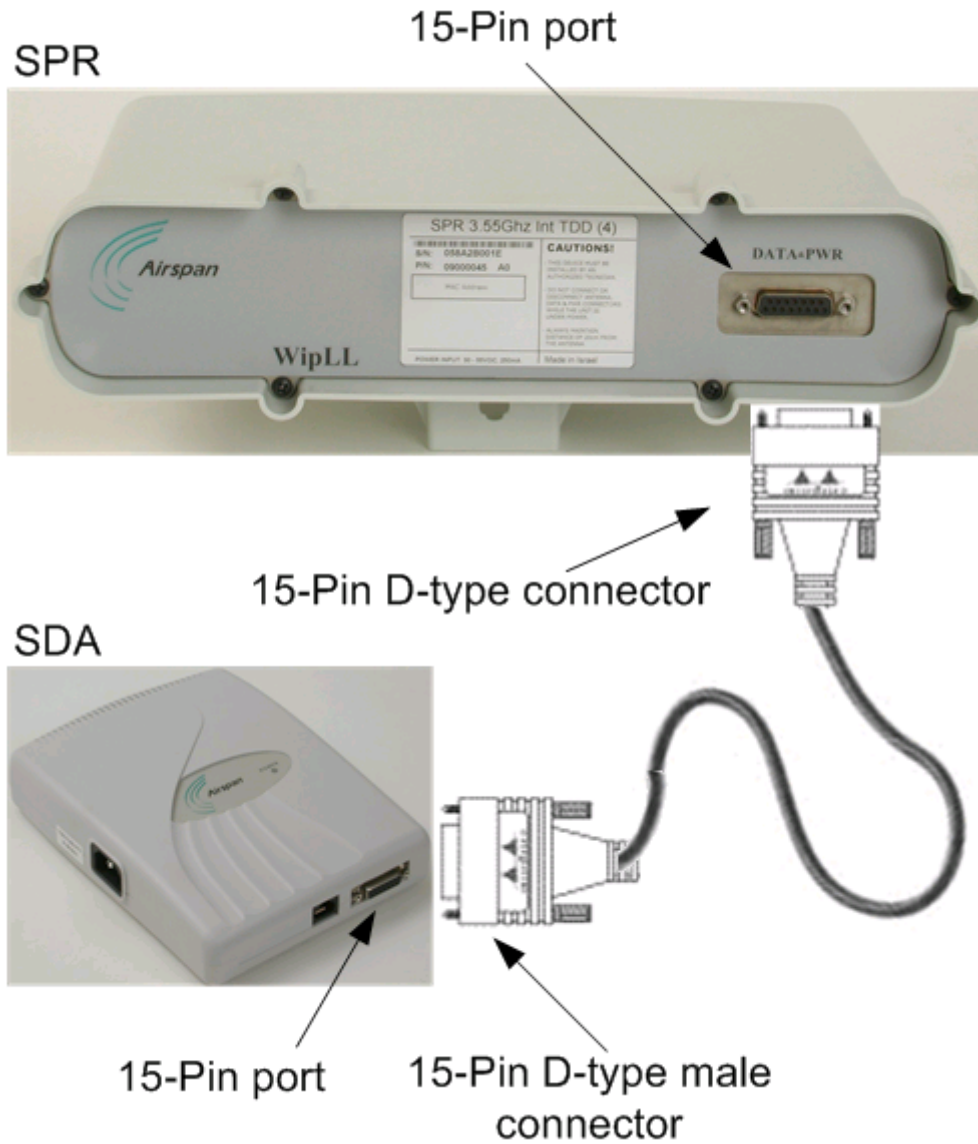

Figure 8-15: SPR-to-SDA cable connections
1. Attach the **15-pin D-type** connector, at one end of the cable, to the SPR's 15-pin D-type port labeled **DATA POWER SYNC**, as displayed in Figure 8-15.
2. Attach the **15-pin D-type** connector, at the other end of the cable, to the SDA's **15-pin D-type** port, as displayed in Figure 8-15.